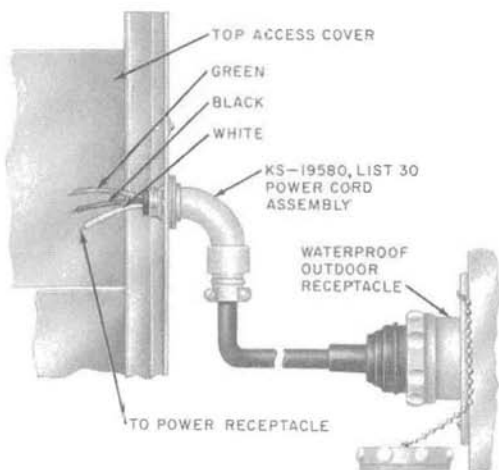

Fig. 17—KS-19580, List 30 Power Cord Assembly for Overhead Entrance
3.10 Refer to 2.13 for available cords and Fig. 17 and 18 for their usage.